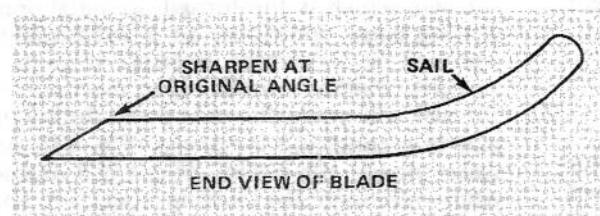

Figure 98
3. Inspect cutting edges of all blades. Sharpen the cutting edges if they are dull or nicked. Sharpen only the top side of the cutting edge and maintain the original cutting angle to make sure of sharpness (Fig. 98). The blade will remain balanced if same amount of metal is removed from both cutting edges.